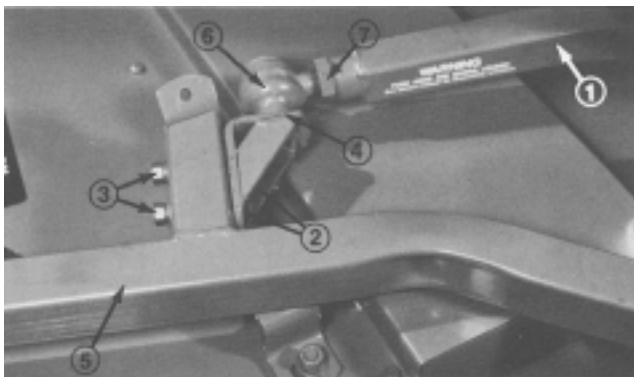

Figure 27
6. Have another person push down on the left push arm while you remove the capscrews, flat washers, lock washers, and nuts securing the ball joint mount to the mount bracket on the cutting unit (Fig. 27). Now the other person can carefully allow the push arm to move upward, which will gradually release the 150 lb. (667 N) of spring load.